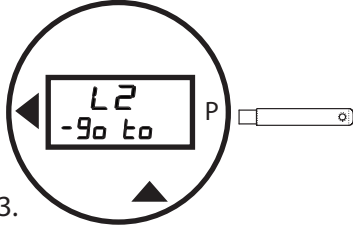

Figure 23.
- a. Pass the wand over the **P** until you reach the **L2 - Go To** selection (Figure 23).